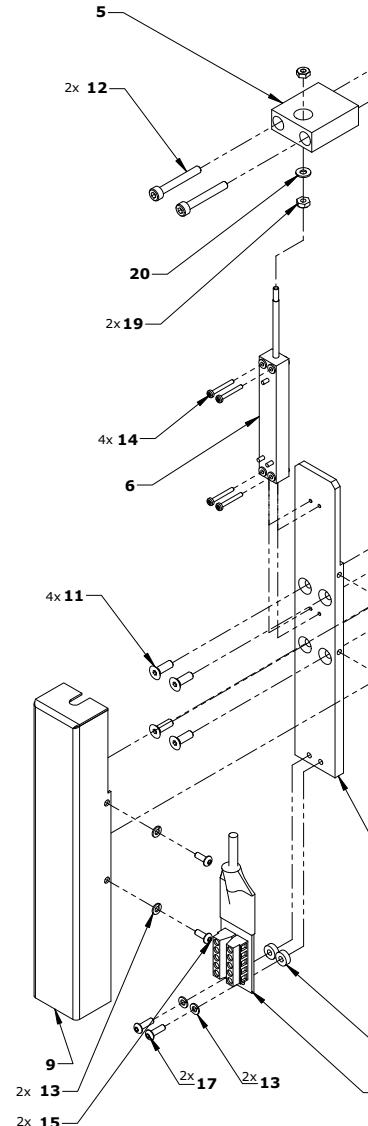

Figure 5-22
See Figure 5-22.
3. See Figure 5-22. Back off two (2) Hex Nuts (46-252318P5, Item 19) above and below Potentiometer Mounting Block (5199964, Item 5). Remove top nut. Remove Linear Potentiometer (5215335, Item 6) by removing four (4) M2 Pan Head Screws (2355910, Item 14). Set all hardware aside.
- 5.) Refer back to Figure 5-22. Mount the replacement potentiometer with the hardware set aside during removal. Add nut and flat washer to shaft. Place shaft through Potentiometer Mounting Block, being careful not to change the cradle positioner height. Add nut to top of shaft and tighten both nuts until the shaft is secure to the Potentiometer Mounting Block.